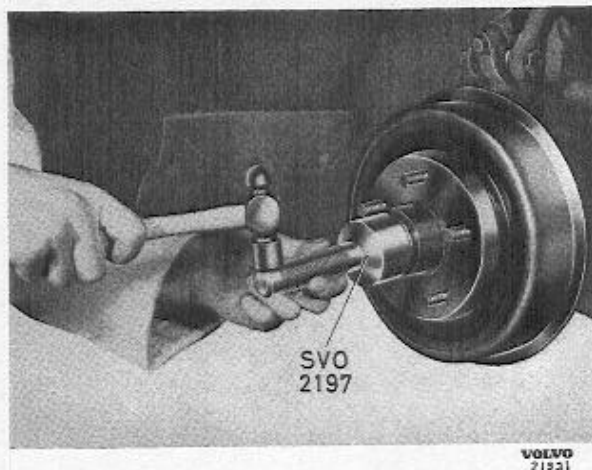
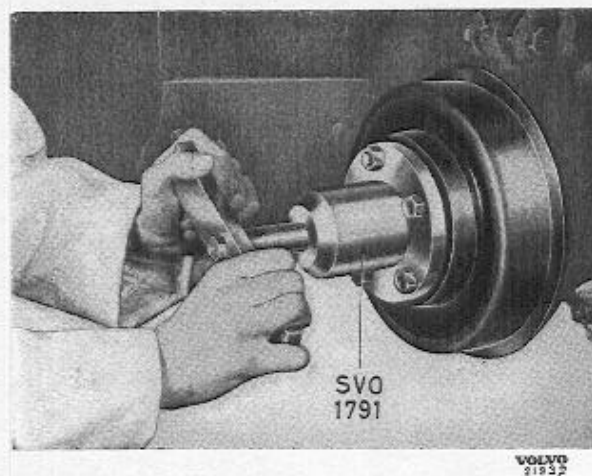
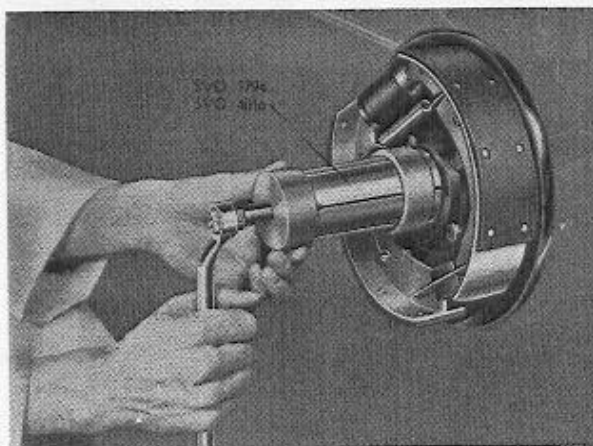

Fig. 7. Removing grease cap.
Fig. 8. Removing hub.
Fig. 9. Removing inner bearing.
2. Remove grease cap with tool SVO 2197 (Fig. 7). Remove split pin and castle nuts. Pull off hub with tool SVO 1791 (Fig. 8). If the inner bearing does not come out with it, this can be pulled off the spindle with tool SVO 1794 (Fig. 9). For hubs with 4 wheel studs (earlier production), use pulpers SVO 1446 and SVO 4016 instead of the above.
2. Release handbrake. Pull off hub with tool SVO 1791, see Fig. 8. If the hub has 4 wheel studs (chassis numbers 1—20004) use SVO 1446.